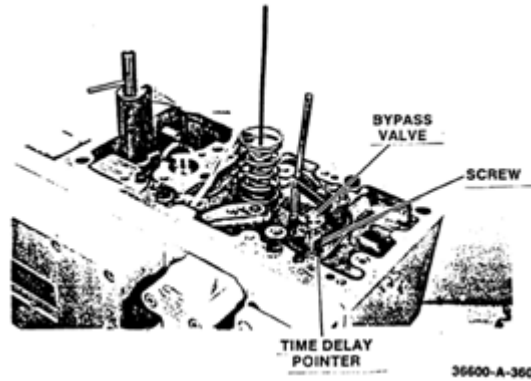

Figure 5-9. Time Delay Mechanism Installed
6. Remove 2 screws and lift off time-delay mechanism (Figures 5-9 and 5-10).
8. Remove the bypass valve (Figures 5-9 and 5-11).